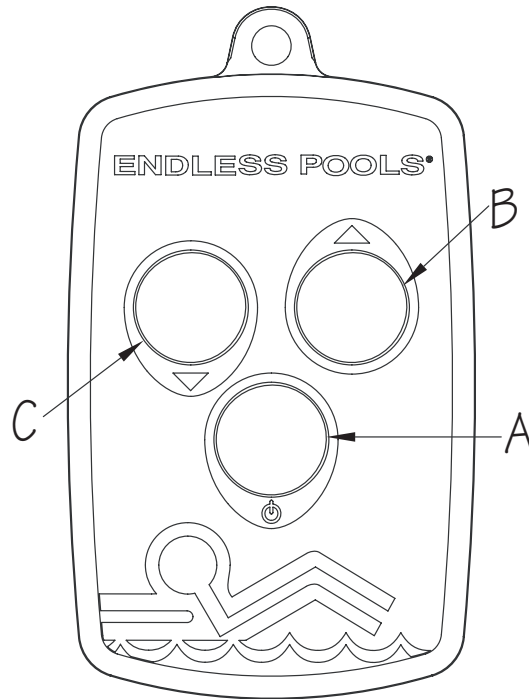

Fig. 32
The Wireless Transmitter is used to operate the Fastlane® Swim. To test the Current Unit, turn on the Hydraulic Power Unit by pressing and holding the On/Off Button (A). Press and hold the Faster Button (B) to increase the speed of the swim current. Press and hold the Slower Button (C) to decrease the speed of the swim current. Press and hold the On/Off Button to turn the unit off (Fig. 32).